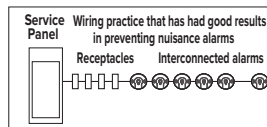

Figure 9-C
- Figure 9-B illustrates interconnection wiring. Improper connection will result in damage to the alarm, failure to operate, or a shock hazard.